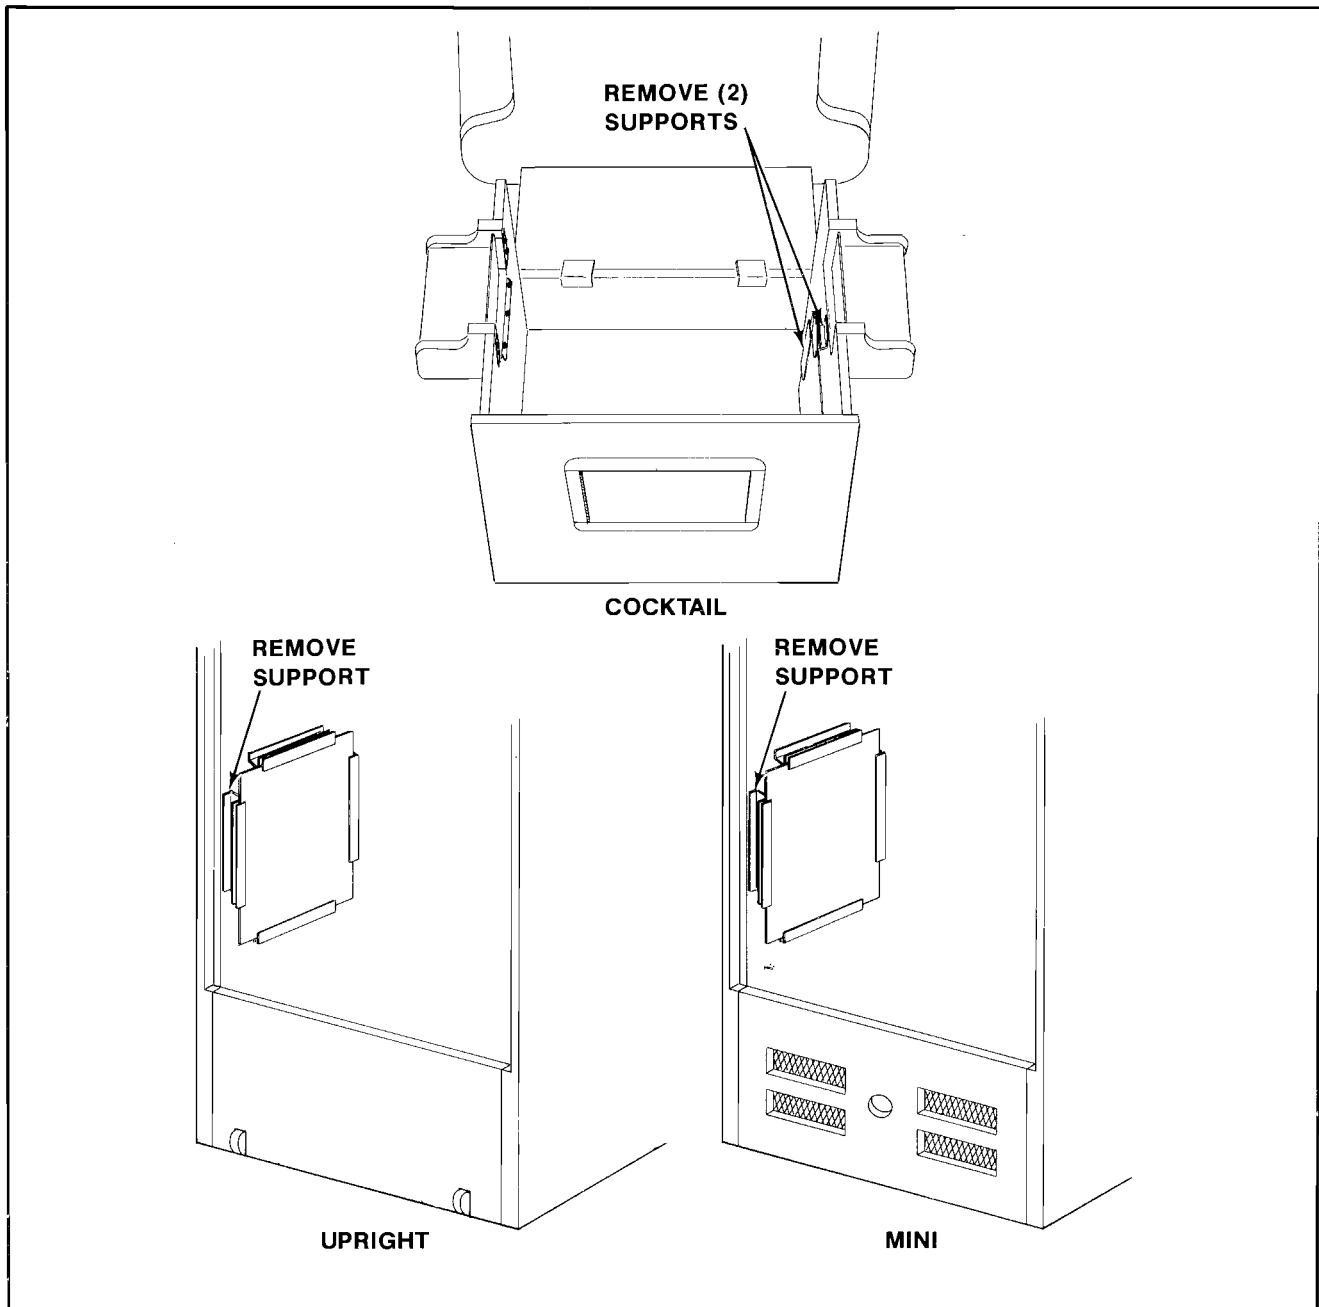

Figure 4-12 Removing P.C.B.s
1. UPRIGHT MODEL: See Figure 4-12.
- Disconnect the linear power supply board from all its cabling, remove the P.C.B. supports indicated in Figure 4-12, and slide the linear power supply board out the back of the cabinet.
2. MINI MODEL: See Figure 4-12.
3. COCKTAIL TABLE MODEL: See Figure 4-12.
- Remove the linear power supply board. See Figure 4-12.